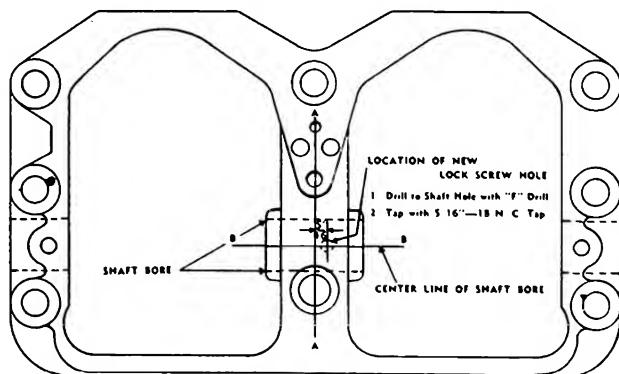

Fig. 4-5. Rocker arm housing—top view
2. Scribe a line, "A", above the rocker arm shaft in line with the center of the oil pipe bore and the center of the hold-down stud bore as shown in Fig. 4-5.
3. Scribe an intersecting line in line with the center of the rocker arm shaft hole, "B", as shown in Fig. 4-5.